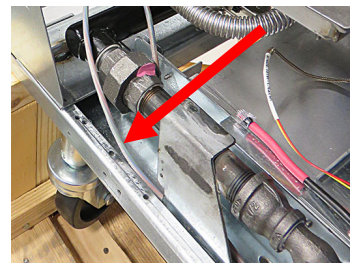

Figure 25
28. Route the other end of the new cable assembly along the frame chase way to the rear of the fryer. Use zip ties to secure the wire(see Figure 25).